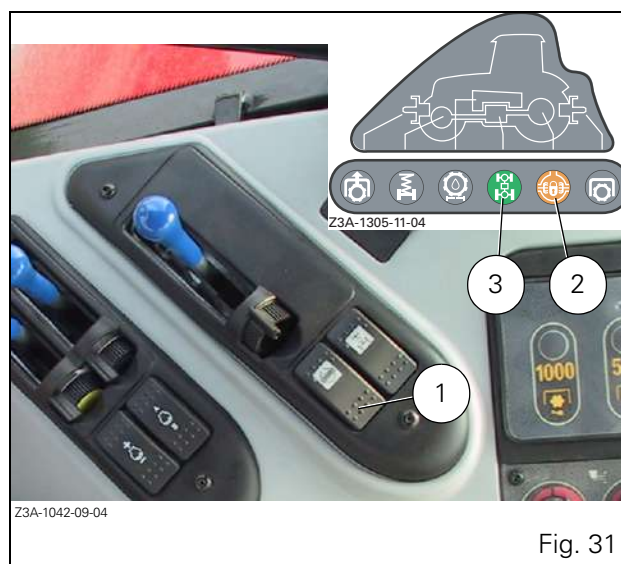

Fig. 31
Fig. 31: To engage the differential lock, press the engagement switch (1). When the switch is pressed, 4WD is simultaneously engaged, and the differential lock and 4WD instrument panel indicator lights (2 and 3 respectively) come on.
NOTE: Any use of the brakes cancels the differential lock. Press the switch (1 Fig. 31) again to re-engage the differential locks. If the tractor is fitted with radar, tractor wheel slip can be controlled (see paragraph 4.5.10 "Using the DOT MATRIX screen").